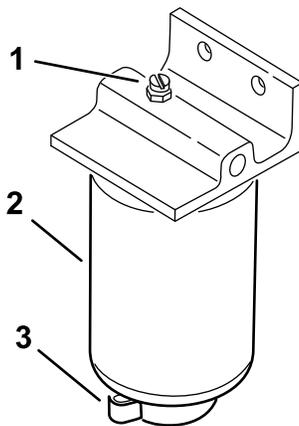

**Figure 38**
1. Close the fuel shutoff valve (Figure 38) below the fuel tank.